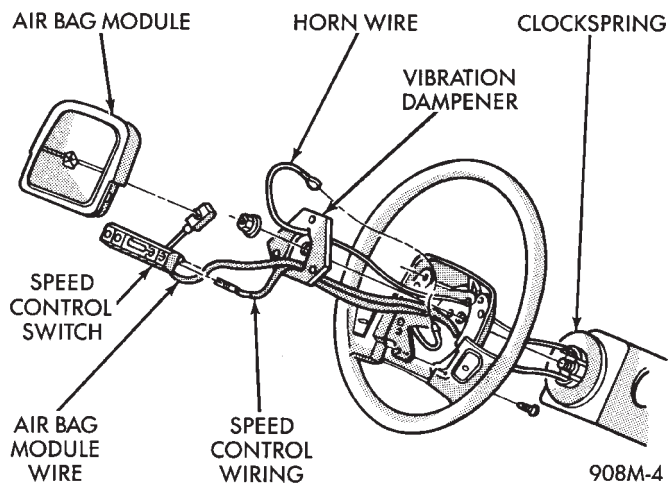

Fig. 14 Steering Wheel Wiring
(1) If the clockspring is not properly positioned or if road wheels were moved, follow the clockspring centering procedure before installing steering wheel. With the road wheels in the straight ahead position. Position the steering wheel on the steering column. Making sure to fit the flats on the hub of the steering wheel with the formations on the inside of the clockspring. Pull the air bag and speed control wires through the lower, larger hole in the steering wheel; and the horn wire through smaller hole at the top. Make sure not to pinch wires (Fig. 14).